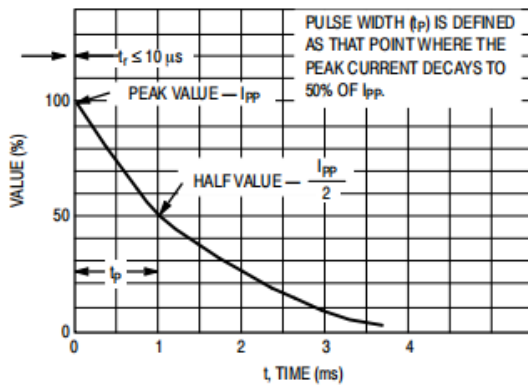

Figure 5. Pulse Waveform
- Peak Power – 24 or 40 Watts @ 1.0 ms (Unidirectional), per Figure 5 Waveform
1. Nonrepetitive current pulse per Figure 5 and derate above  $T_A = 25^\circ\text{C}$  per Figure 6.
5. Surge current waveform per Figure 5 and derate per Figure 6